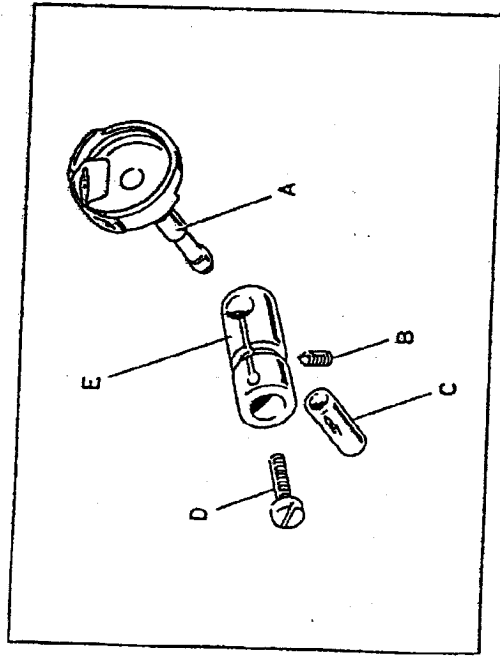

Fig. 5
The hook shaft A (fig. 5) is assembled on supporting bushing E. This bushing is fastened to the machine casting by means of allen screw B, while bushing C is fastened to supporting bushing E by means of screw D.
- loosen allen screw B (fig. 5) and screw D;
- then tighten allen screw B and screw D strongly (fig. 5);